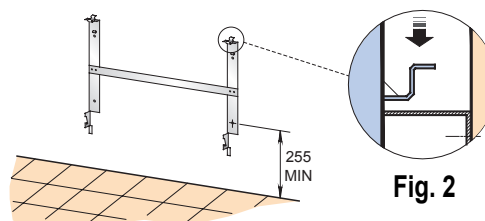

Fig. 2
1. Remove wall mounting bracket from the back of the heater by depressing the spring latch at the top of each bracket - see Fig. 2.